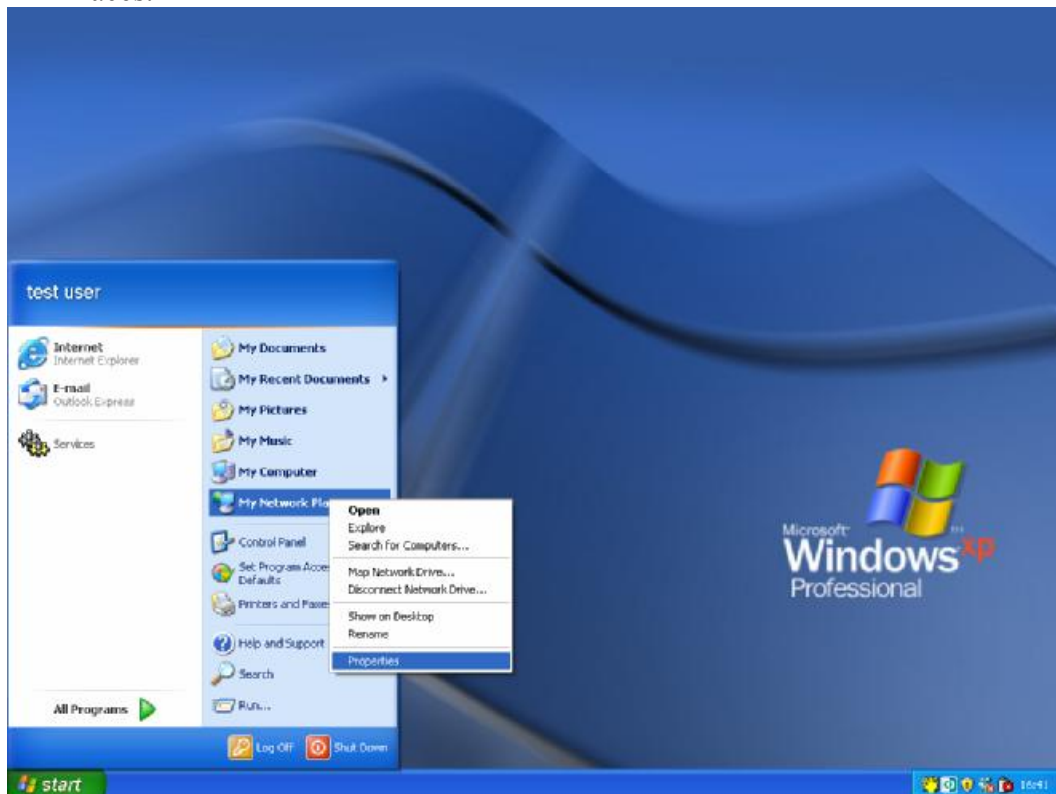

Figure 3-1. My Network Places
- 1) On Windows XP Start menu <**Right Click**> on **My Network Places** then right click on **Properties**. This can be seen in Figure 3-1. My Network Places.